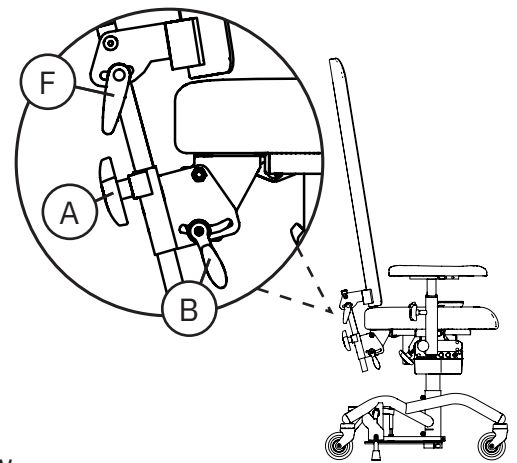

Figure 5.10. High Transparent Back Support.
The Standard X-ray backrest mechanism’s back support is adjustable in terms of height (A) and the angle of the backrest mechanism is adjustable (B). The back support angle is also adjustable (F) (see Figure 5.10).